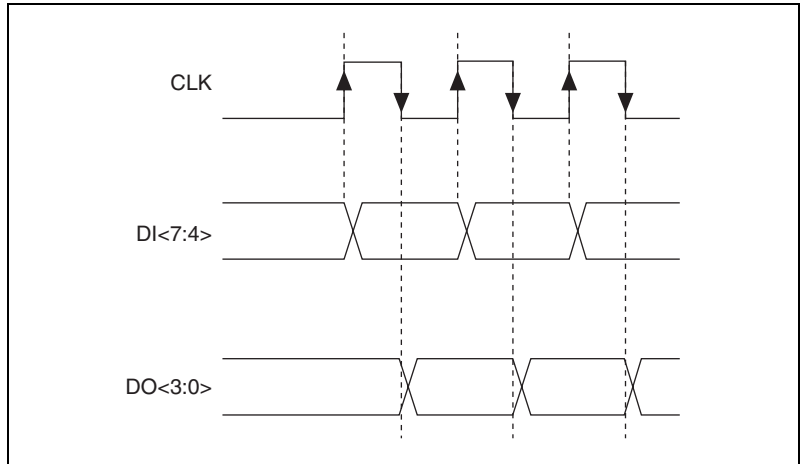

Figure 4-8. Clock Signal Driving DI and DO Signals
The following timing diagrams illustrate the use of these signals as clock sources. You can software-configure DIO operations for either rising or falling edge on whichever clock you choose as the source. Figure 4-8 shows any clock signal, in general, driving two separate groups of lines configured for digital input (DI) and DO. The DI operation is using the rising edge of the clock and the DO operation is using its falling edge.